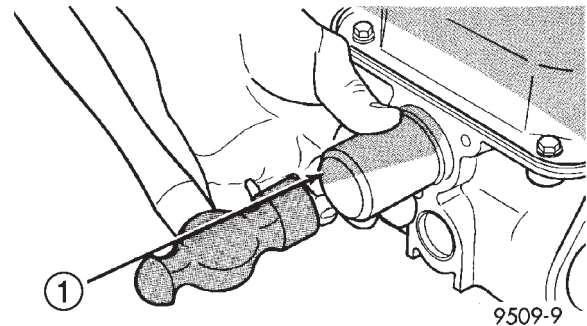

Fig. 80 Camshaft Oil Seal—Installation
(1) Install camshaft seal flush with cylinder head using Special Tool MD998306 (Fig. 80).